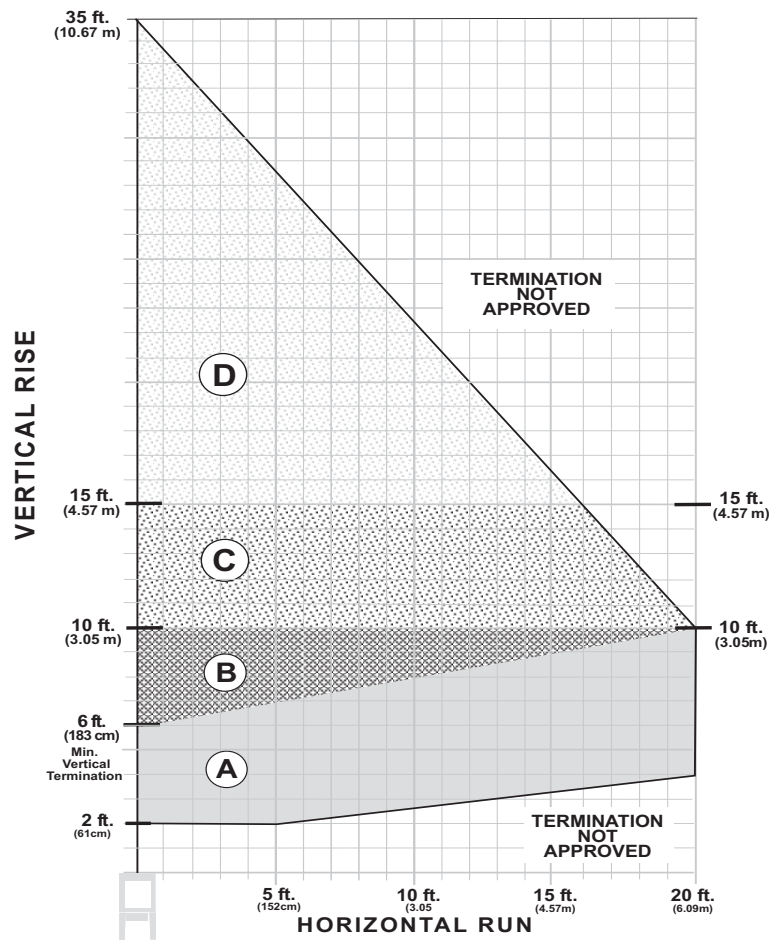
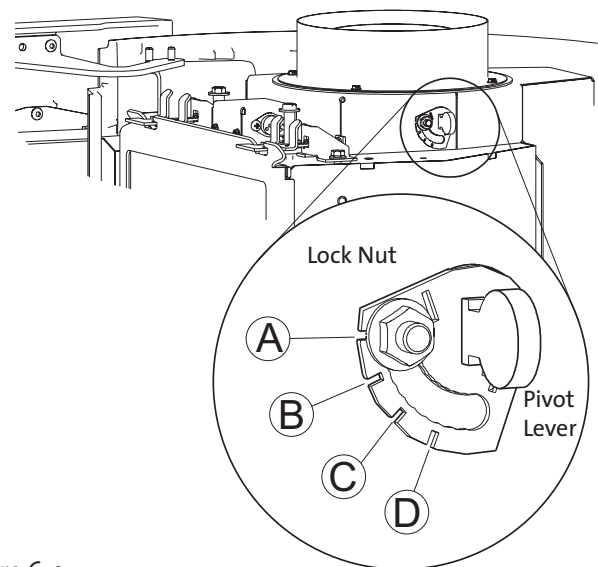

Figure 6.2.
Figure 6.4.
The Exhaust Restrictor plate is located within the firebox exhaust outlet. It is adjusted by rotating the dial on the right side of the outlet within a range beginning at the factory-set, fully open position (no restriction) to a fully restricted position. See Figs. 6.2 and 6.3. The Minus (-) and Plus (+) signs on the dial relate to degrees of restriction, from zero to approximately 70%. The four, lettered positions correlate to the termination zones (A,B,C,D) diagramed in figure 6.4. Use the diagram to determine the degree of restriction and shutter setting that correlates to your vent configuration.
Determine the dial notch position appropriate to your vent configuration as designated in Fig 6.2. Pivot the dial to align the lock nut with that notch.
- The termination should fall within the shaded areas of the grids depicted in the Vent Matrix, fig. 6.2, page 10.
- Any horizontal termination must fall within the shaded portion of the vent window matrix shown in fig. 6.2.